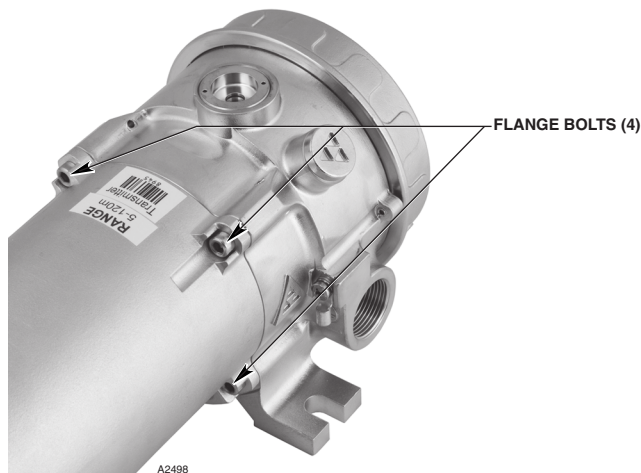

Figure 21— Flange Bolt Location
2. Remove the four stainless steel flange bolts using a 4 mm hex wrench. See Figure 21. Take care to properly support the module as the last flange bolt is removed.